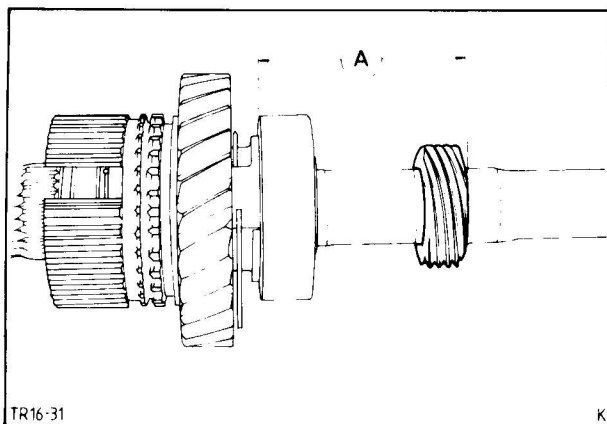

Fig. 41. Location of speedometer worm gear
29. Fit speedometer worm gear, Fig. 41.